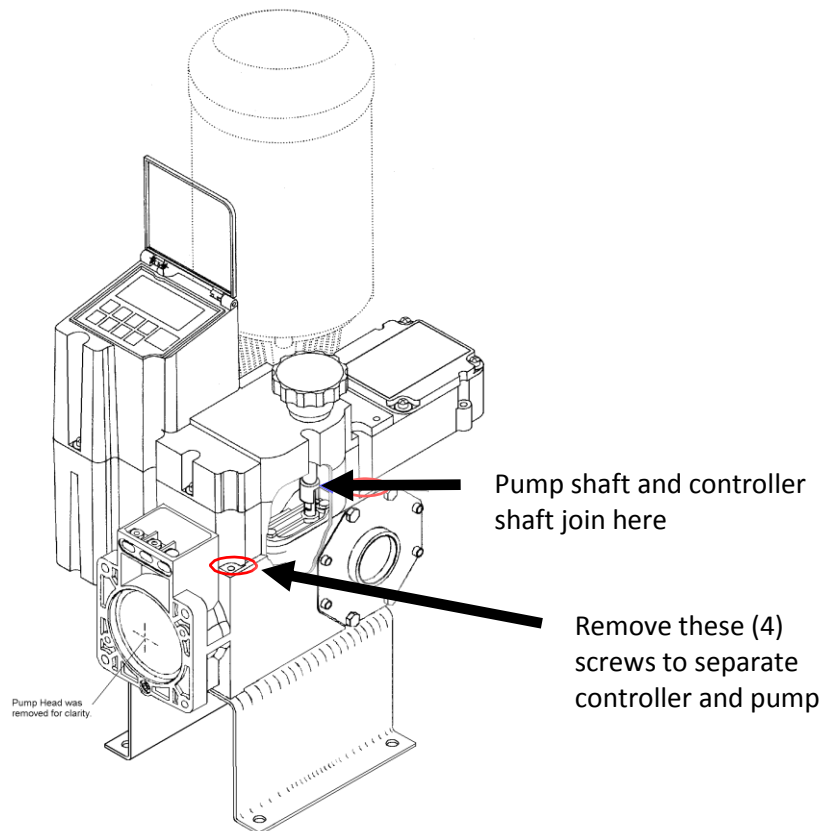

Figure 26 – Controller/Pump interface
4. A majority of encoder issues with the DLC are associated with mis-alignment of the DLC's output coupling with the pumps stroke adjustment mechanism. To eliminate this condition, **loosen but do not remove the 4 screws that hold the controller to the top of the pump.** See Figure 26, Controller Pump Interface